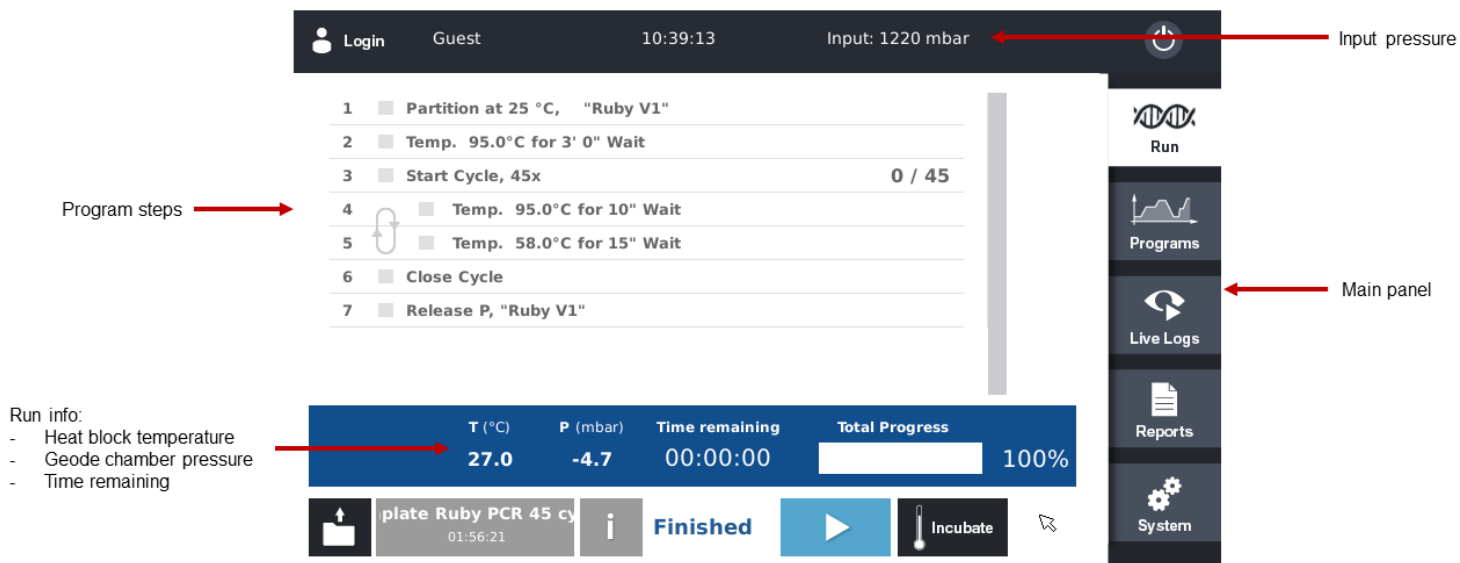

Figure 9: The main panel of the Geode display.
3. Switch on the pressure source, wait for a few seconds for the pressure to stabilize. Looking at the Geode display, check that the input pressure is between $1,220 \pm 20$ mbar (Figure 9). Adjust the pressure source if needed.
Users can navigate through the Geode using the tactile graphical interface. The main panel, on the right side of the screen, is composed of 5 menus that can be entered into by simply touching the front screen (**Error! Reference source not found.**Figure 9):
At the Geode start-up, the user will be asked to login. After logging in, the user lands on the main panel (Figure 9) and the access to the different buttons depends on their user group as detailed in Table 9. The default user account, when no user is logged-in, is the guest account that allows no actions to be performed on the Geode.
To switch user or log out, click on the “Login” button on the top-left corner of the panel (see Figure 9). This button is accessible from every tab of the GUI except when a run is ongoing. If one tries to change user during a run, a pop-up window explaining that such an action is impossible displays.